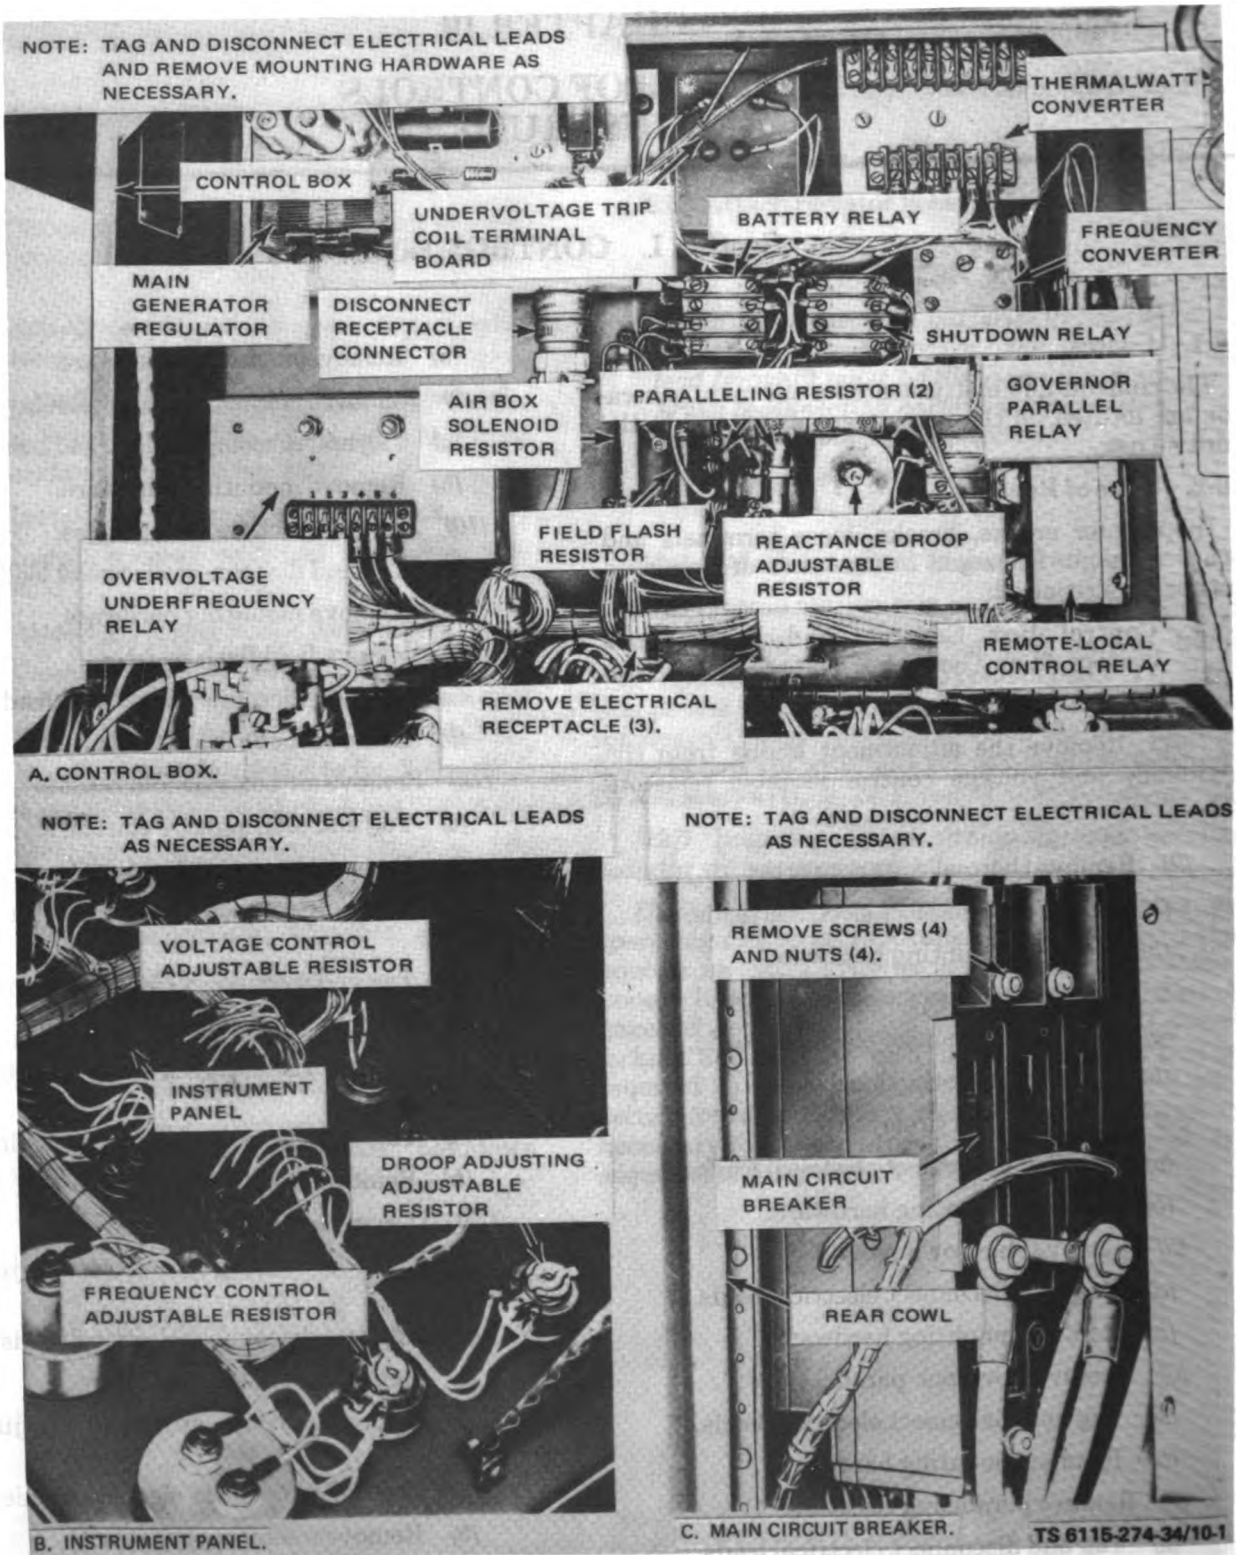

Figure 10-1. Controls and Instruments, Removal and Installation
(1) Remove the adjustment knobs from the frequency and voltage control variable resistors (fig. 10-1).
(2) Remove thermal watt converter:
(3) Remove frequency converter:
(4) Remove battery relay:
(5) Remove shutdown relay:
(1) Install main circuit breaker (fig. 10-1).